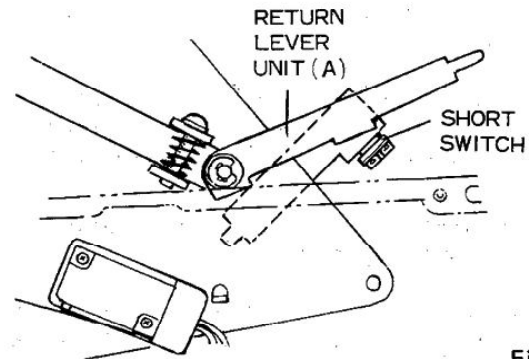

Fig. 22
If the SHORT SWITCH does not contact at the very moment the tonearm starts returning, a pulse noise may be reproduced through the speakers. To solve this problem, adjust the position of the SHORT SWITCH with the screw so that the RETURN LEVER (A) makes the SHORT SWITCH contact a little before the RETURN ARM UNIT is locked by the LOCK LEVER. (Fig. 22)